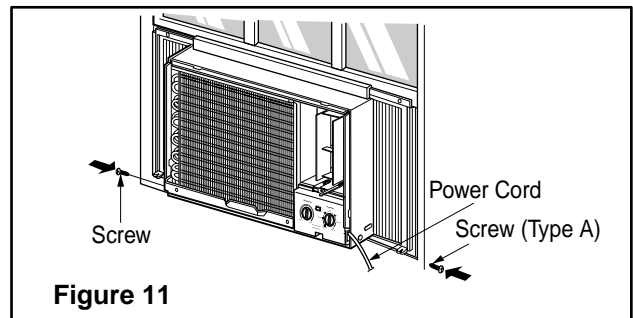

Figure 11
7. Slide the unit into the cabinet. (See Fig. 11)